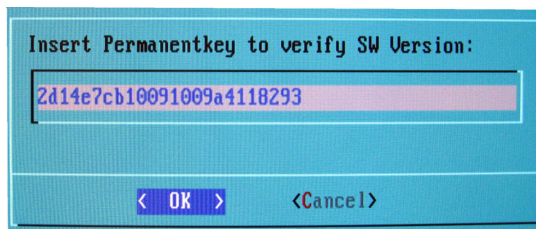

Figure 8-5 Yes - start update procedure
- 11.) To start update procedure click YES (Figure 8-5 below).